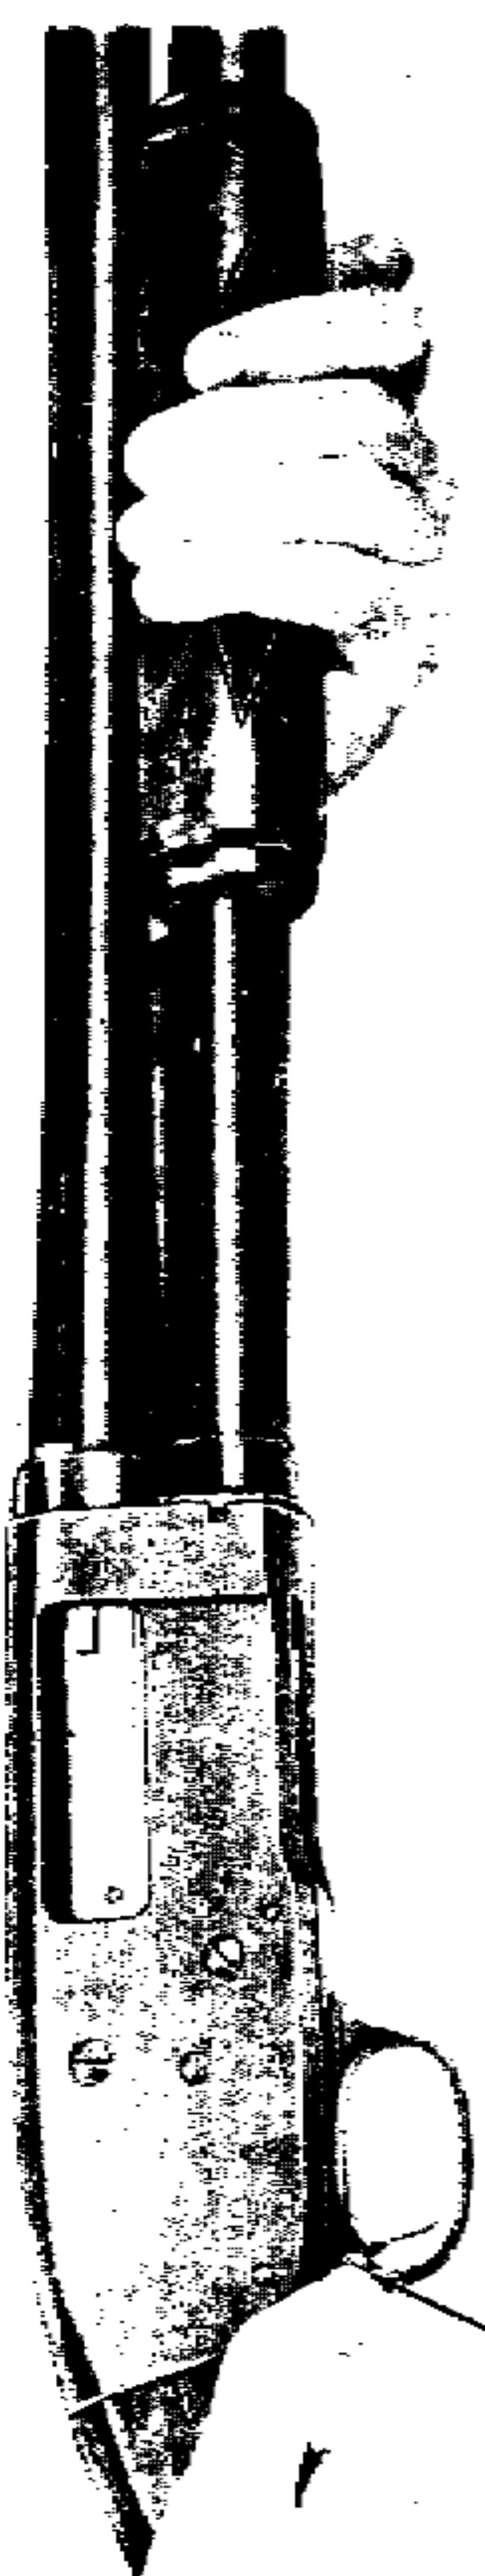

Figure 41—Operating Safety—Stevens Shotgun M620
d. The trigger safety (M620A and M620 Guns) (fig. 41), positioned in the rear of the trigger plate guard bow, operates laterally. When pushed to the left, the trigger is free to be pulled and the gun fired. When pushed to the right, the trigger is blocked and cannot be pulled nor the gun fired. In the M520 Gun, the safety thumbpiece is positioned in the tang of the receiver and operates longitudinally. When pushed forward, the trigger is free to be pulled and the gun fired. When pulled to the rear, the trigger is blocked and cannot be pulled nor the gun fired. With a shell in the chamber, it is best to block the trigger by pushing the safety to the right (M620A and M620 Guns) or to the rear (M520 Gun) unless the gun is to be fired immediately.